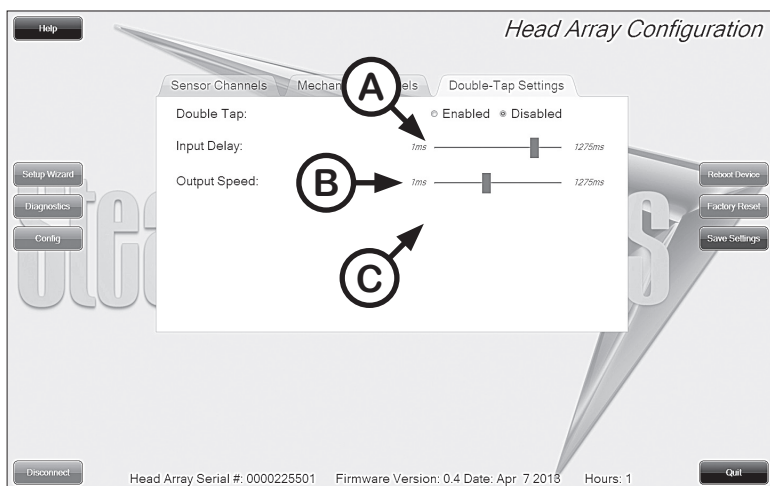

Fig.3.4.4
- C. Double-Tap Settings Tab** - Navigates to the Double-Tap Settings menu (see Fig.3.4.4 on p18)